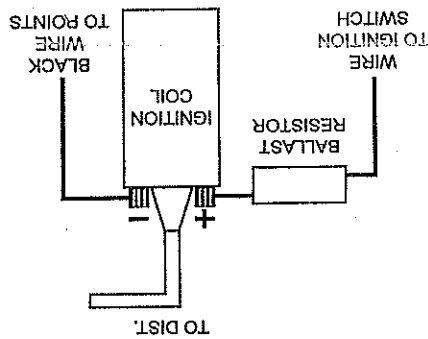

FIGURE 2
5. The red wire from the Ignitor should be connected to the positive (+) side of the coil, or a 12-volt switching power source (See Figure 2 & 3). The black wire should be connected to the negative (-) side of the coil.
14. For installations that do not use a primary ballast resistor, connect the red Ignitor wire to the positive (+) side of the ignition coil (See Figure 2).